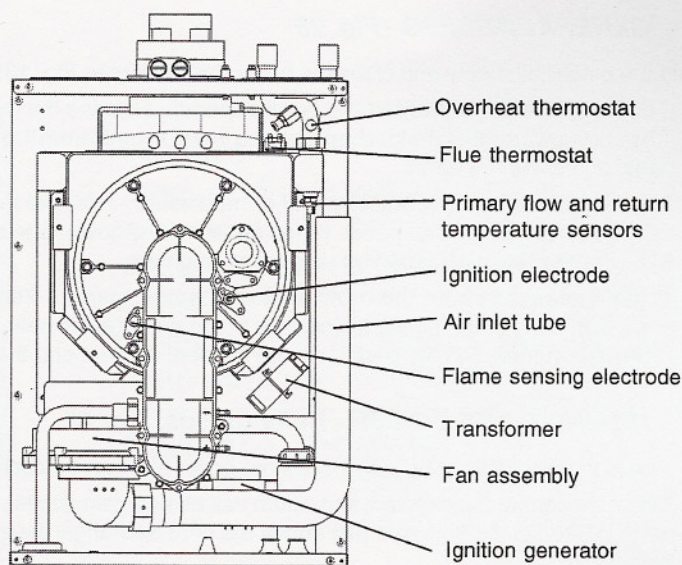

Fig. 27
8.6 FAN - Fig. 27
8.7 IGNITION GENERATOR - Fig. 27
8.8 TRANSFORMER - Fig. 27
8.9 OVERHEAT THERMOSTAT - Fig. 27
8.10 FLUE THERMOSTAT - Fig. 27